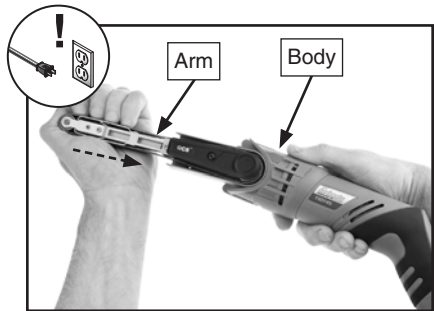

Figure 8. Removing belt tension.
- Push arm back (see **Figure 8**) until it clicks and locks.